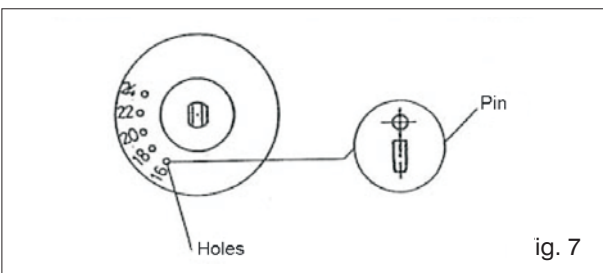

Fig. 7
- Insert the provided pawl, in the hole corresponding to the MAX temperature desired, on the lower part of the knob (**Fig. 7**).